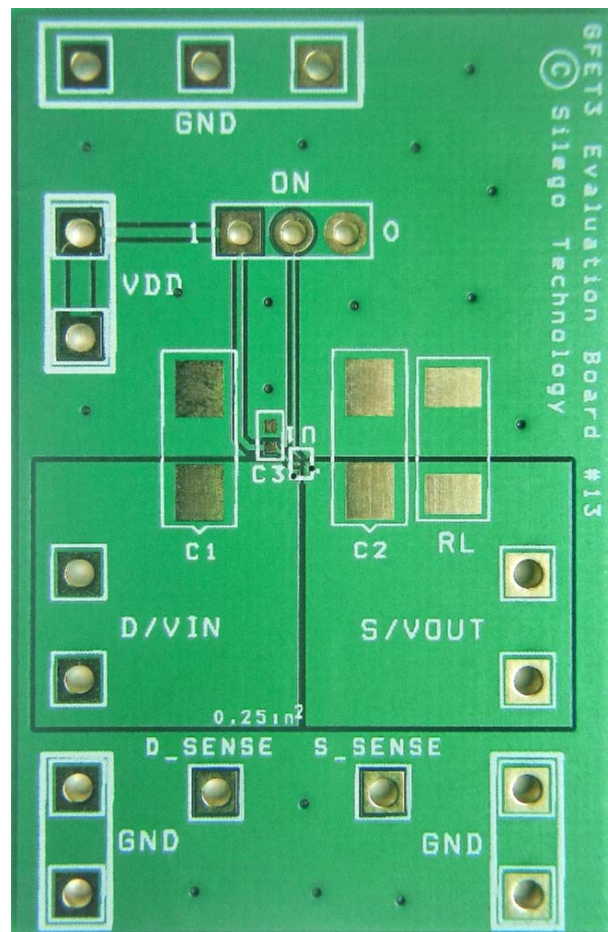

Figure 28. SLG59M1746C Evaluation Board
2. Since the VIN and VOUT pins dissipate most of the heat generated during high-load current operation, it is highly recommended to make power traces as short, direct, and wide as possible. A good practice is to make power traces with absolute minimum widths of 15 mils (0.381 mm) per Ampere. A representative layout, shown in Figure 28, illustrates proper techniques for heat to transfer as efficiently as possible out of the device;
A GFET3 Evaluation Board for SLG59M1746C is designed according to the statements above and is illustrated on Figure 28. Please note that evaluation board has D_Sense and S_Sense pads. They cannot carry high currents and dedicated only for $R_{DS(ON)}$ evaluation.